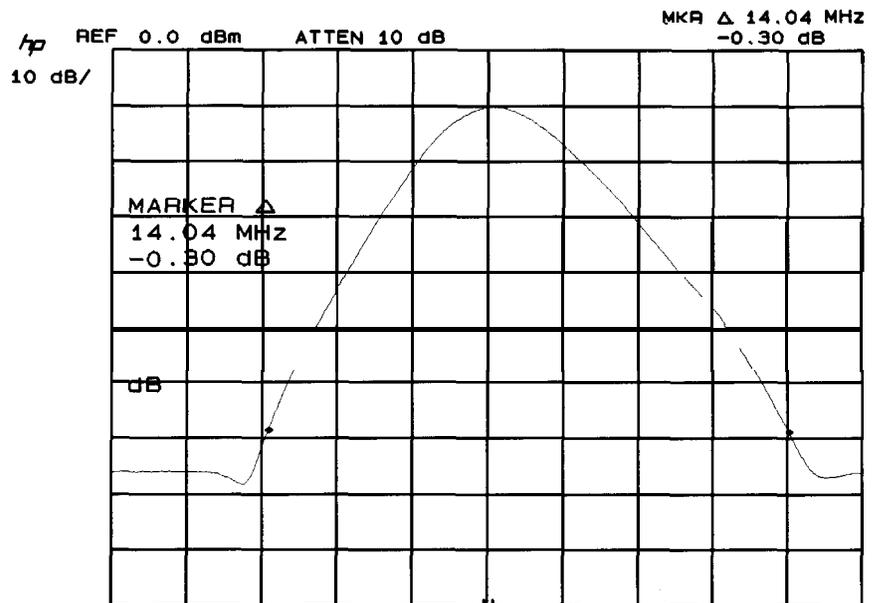

Figure 4-4. 60 dB Bandwidth Measurement
4. Press MARKER **NORMAL** and position marker at peak of signal trace. Press MARKER **Δ** and position movable marker 60 dB down from the stationary marker on the positive-going edge of the signal trace (the MARKER A amplitude readout should be -60.00 dB ±1.00 dB). It may be necessary to press SWEEP **CONT** and adjust **CENTER FREQUENCY** so that both 60 dB points are displayed. (See Figure 4-4.)
6. Read the 60 dB bandwidth for the 3 MHz resolution bandwidth setting from the MARKER A frequency readout (Figure 4-4) and record the value in Table 4-4.